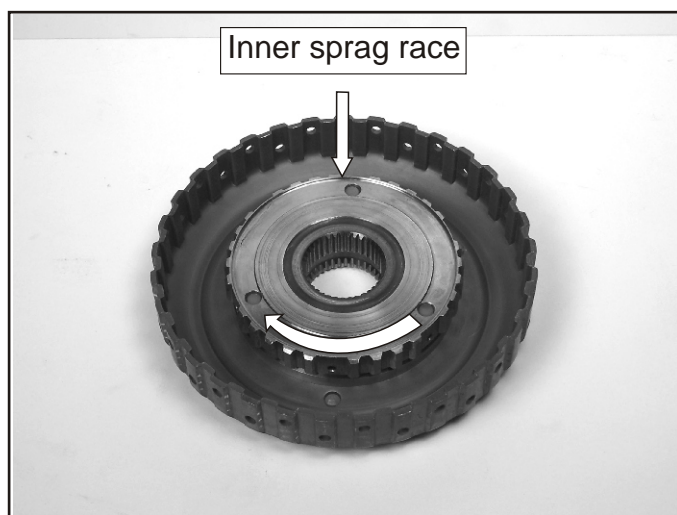

Figure 128
74. Remove the inner race rotating it clockwise as shown in Figure 128.